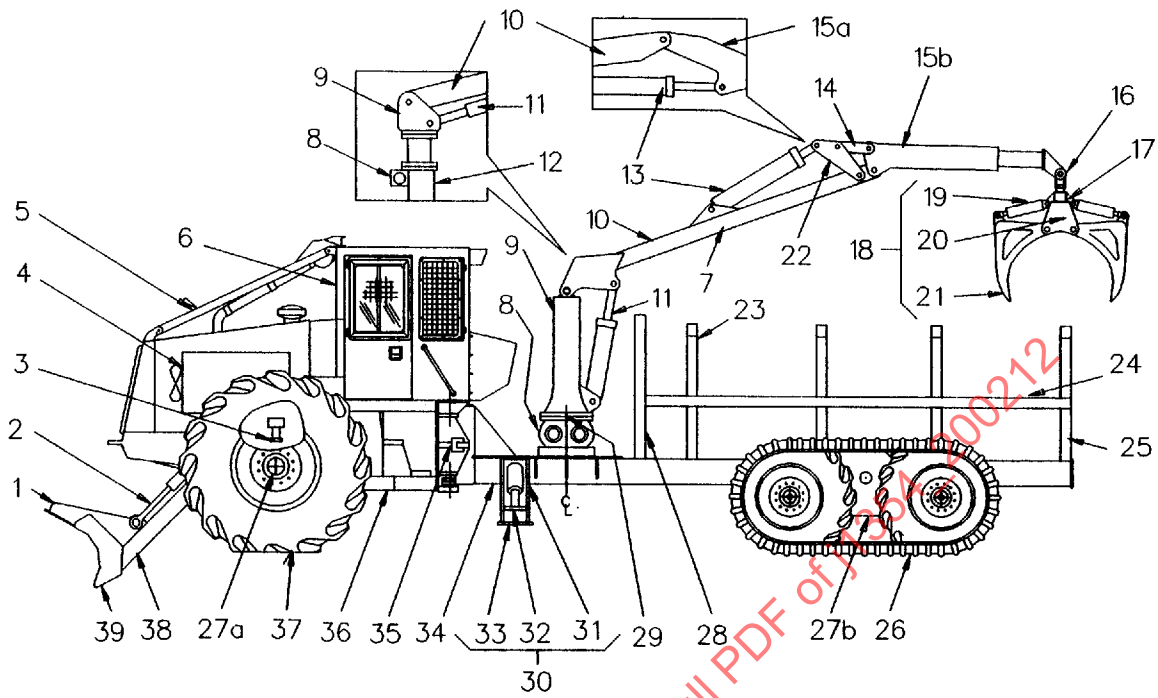

FIGURE 1—SHORTWOOD
3.1.1 **SHORTWOOD (FIGURE 1)**—This machine usually employs a fixed bunk designed to carry parts of trees, shortwood, or log lengths.